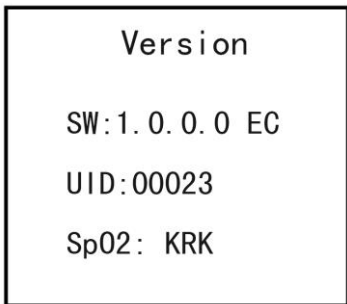

Figure 4.10I Version info.
- Version: For viewing version number of the software, as shown in figure 4.10I